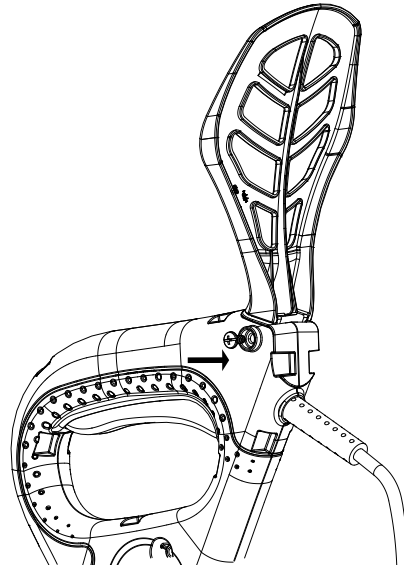

Fig. 4
3. Tighten the screw to secure the auxiliary handle (Fig. 4).